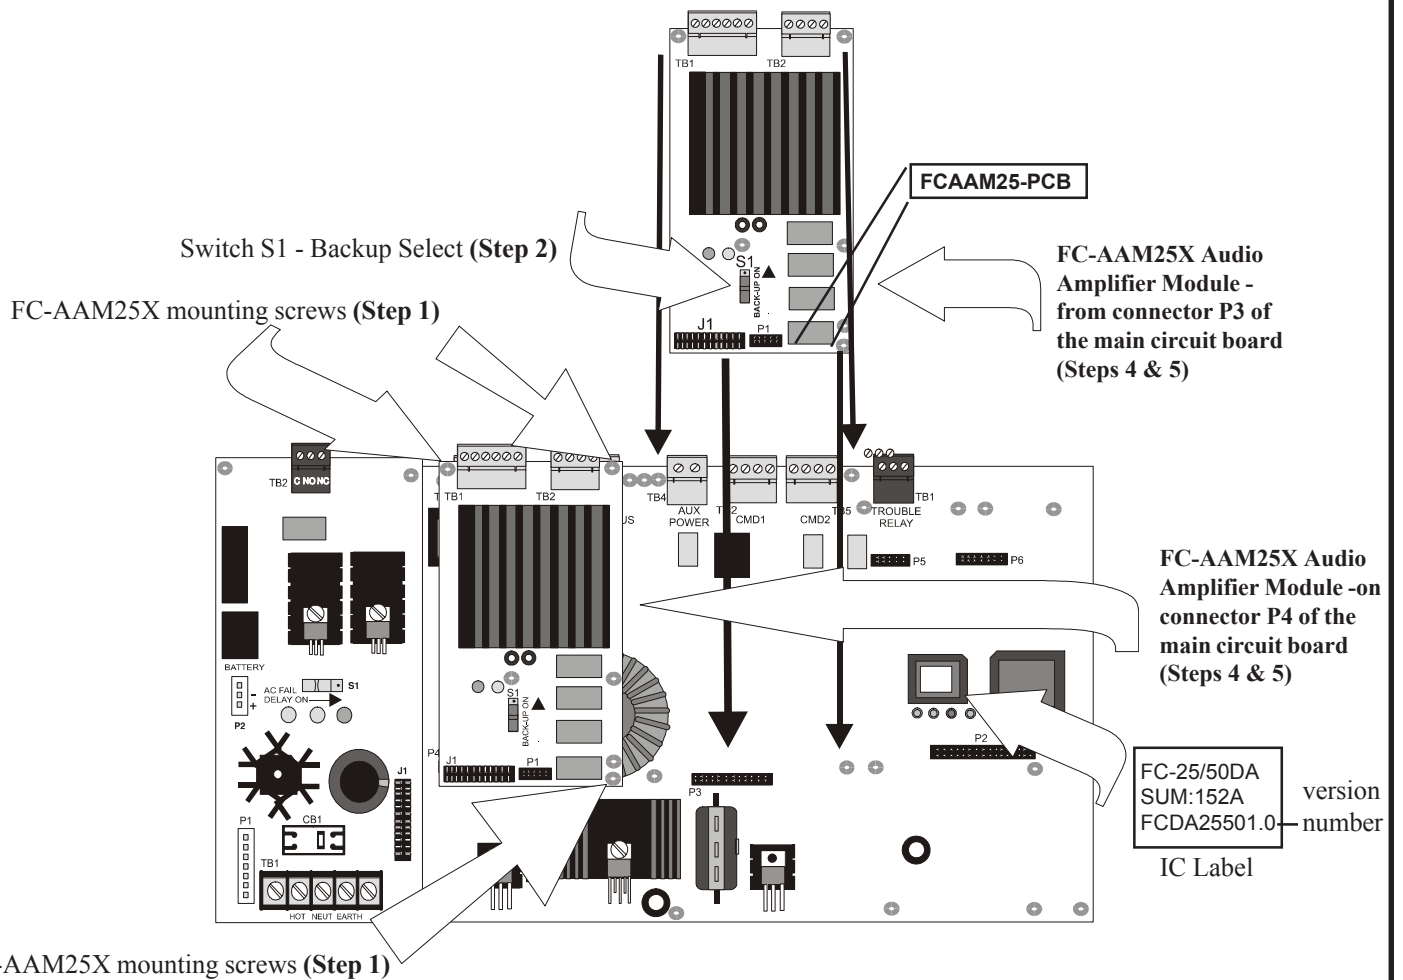

Figure 2: Main Circuit Board
- Main circuit board identified by software version FCDA25501.0 or higher (refer to Fig. 2)